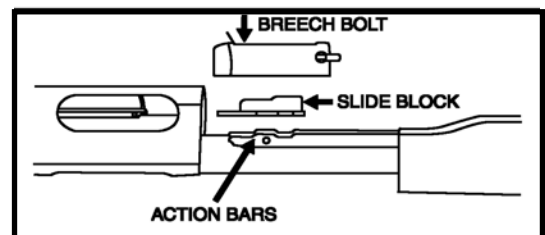

Figure 4
*Remington:* In a forward motion slide the forend off the magazine tube. (The bolt and slide block will also be removed) (Fig. 4)